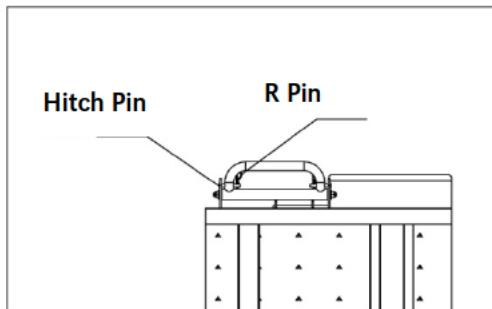

Fig. 1
1. Fix the handle using hitch pin and R Pin. (Fig.1).